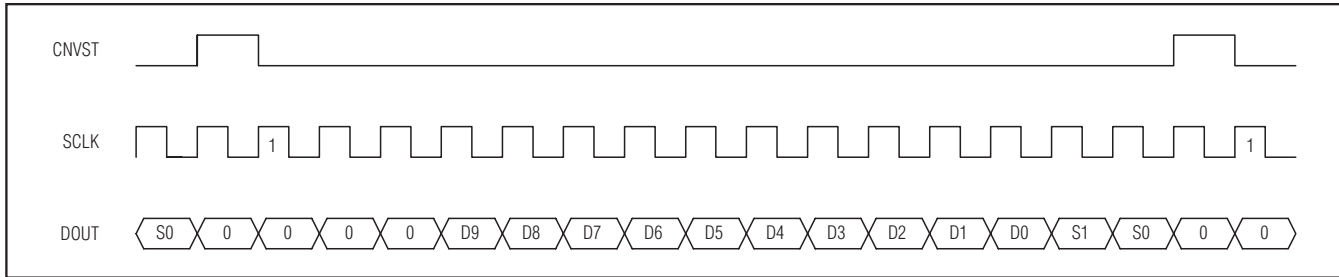

Figure 17. DSP Interface—Continuous Conversion
The MAX1077/MAX1079 can also be connected to the TMS320C54\_ by using the data transmit (DX) pin to drive CNVST and the CLKX generated internally to drive SCLK. A pullup resistor is required on the CNVST signal to keep it high when DX goes high impedance and 0001hex should be written to the DXR continuously for continuous conversions. The power-down modes can be entered by writing 00FFhex to the DXR (see Figures 17 and 18).
transmit-data register more than once. For single conversions, idle CNVST high and pulse it low for the entire conversion. The ADSP21\_ \_ \_ STCTL and SRCTL registers should be configured for late framing (LAFR = 1) and for an active-low frame (LTFS = 1, LRFS = 1) signal. This is also the best way to enter the power-down modes by setting the word length to 8 bits (SLEN = 1001). Connect the VL pin to the ADSP21\_ \_ \_ supply voltage when the MAX1077/MAX1079 are operating with a supply voltage higher than the DSP supply voltage (see Figures 17 and 18).